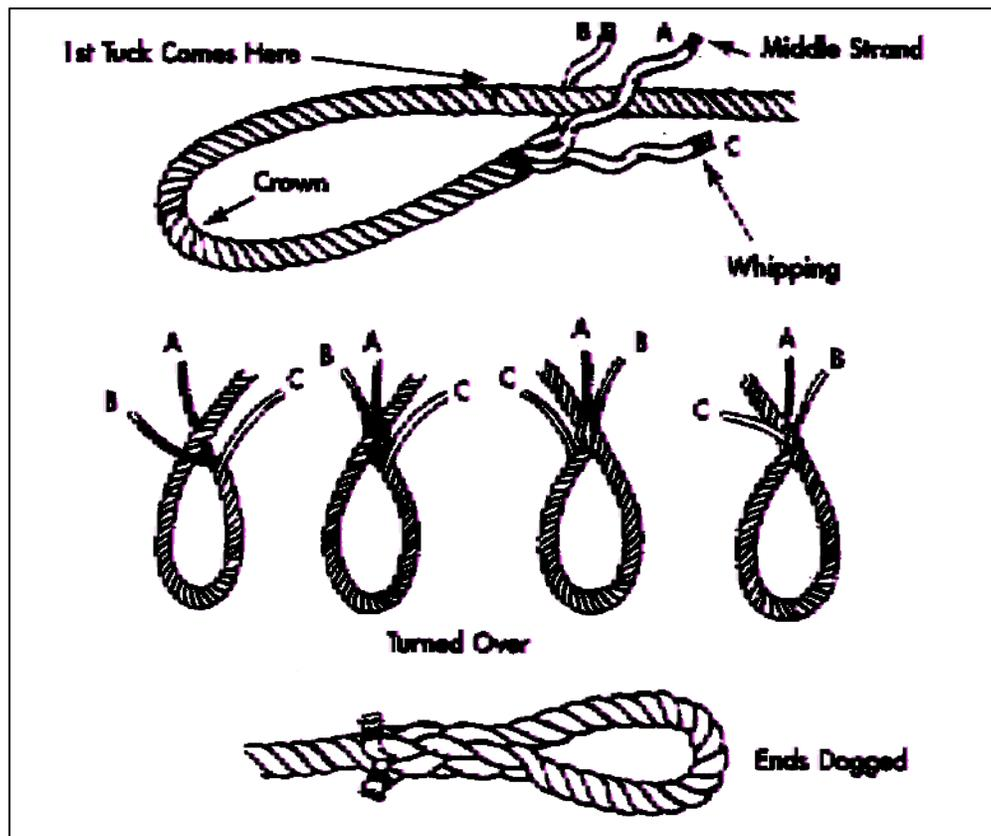

Figure 5.13-2 - Making an Eye Splice
- b. Now refer to Fig 5.13-2 in which the middle strand is marked A, the left-hand strand marked B and the right-hand strand marked C, and make the splice as follows:
- (1) Tuck A, from right to left, under the nearest strand of the standing part.
- (2) Tuck B, from right to left, under the next strand of the standing part.
- (3) Now turn the rope right over so as to bring the remaining strand C on the top, and then tuck C from right to left under the unoccupied strand of the standing part. Care must be taken to retain the lay of the rope in the last strand tucked, as this enables it to lie closer.
- (4) Now, beginning with C, heave each strand taut with a heaving mallet. Then tuck all three strands a second and third time (fourth and fifth time if splicing MMFC).
- (5) Finish off by tapering the splice as described for the back splice or, if the appearance of the splice is of secondary importance and maximum strength is required, dogging the ends by halving each of the three strands and whipping each half to its neighbor over the adjacent strand.